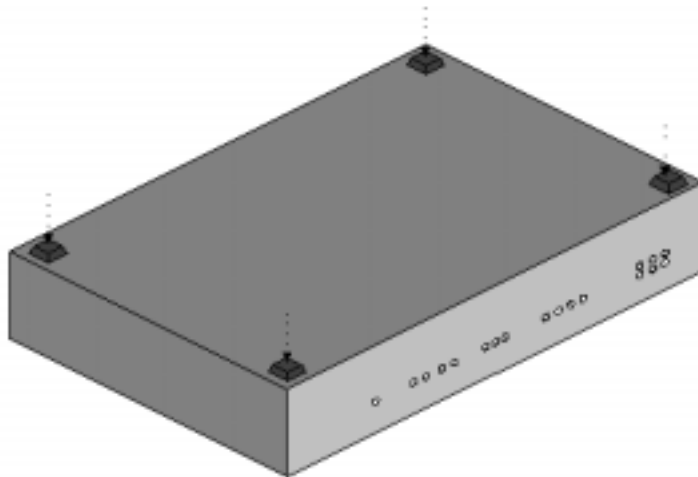

Figure 3-1: Installing the Rubber Feet for Desktop Use
2. Remove the backing from the adhesive side. Apply to each of the corners on the bottom of the ADIC Gateway approximately ¼-inch from each edge. See Figure 3-1.